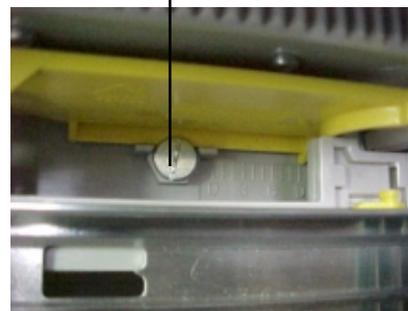
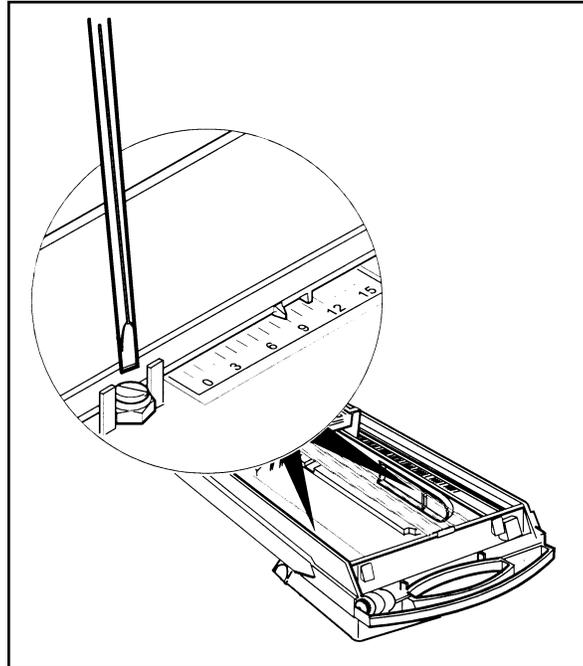

Figure 12
Figure 13
A single screw secures the bracket to the bottom of the cassette, as shown in Figure 12. Note that a ruler scale is embossed into the floor; a pointer on the bottom edge of the adjustment bracket points to the current width setting, as shown in Figure 13. In the next step, you will loosen the adjustment bracket screw to allow the bracket to be moved to the proper width setting for the note, as determined in Step 1 of this procedure.
4. To make the width adjustment, select either the left or right guide-rail to begin. Use a flat-blade screwdriver to loosen the screw that secures the adjustment bracket to the bottom of the cassette, as shown in Figures 13 and 14. It is not necessary to remove the screw completely.